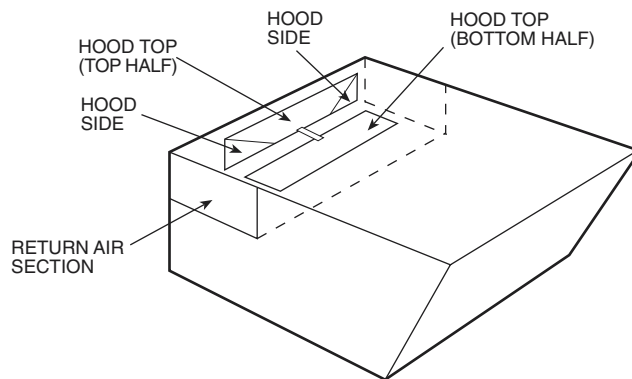

Fig. 17 — Outdoor-Air Hood Component Shipping Location
1. Remove blank panel from return end of unit (hood section). Save the screws. See Fig. 17 for shipping location of components.